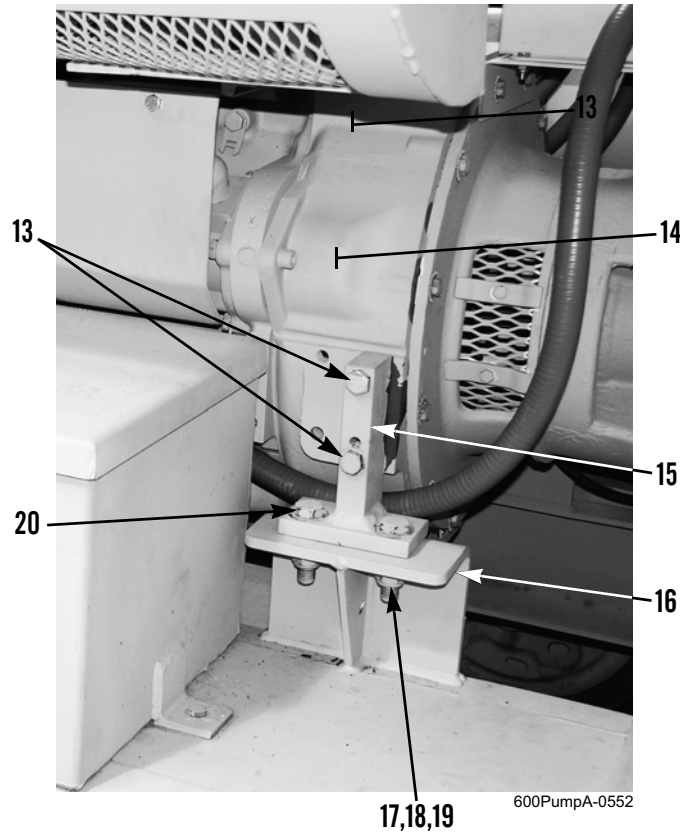

Figure 5. Left-Rear Engine Mount.
2. Remove two bolts (Figure 5, Item 13) from engine mount (Figure 5, Item 15) and engine flywheel housing (Figure 5, Item 14).
3. Remove two locknuts (Figure 5, Item 17), lockwashers (Figure 5, Item 18), washers (Figure 5, Item 19), bolts (Figure 5, Item 20), and engine mount (Figure 5, Item 15) from frame (Figure 5, Item 16). Discard lockwashers and locknuts.
1. Install engine mount (Figure 5, Item 15) on frame (Figure 5, Item 16) with two bolts (Figure 5, Item 20), washers (Figure 5, Item 19), new lockwashers (Figure 5, Item 18), and new locknuts (Figure 5, Item 17).
2. Install engine mount (Figure 5, Item 15) on engine flywheel housing (Figure 5, Item 14) with two bolts (Figure 5, Item 13).